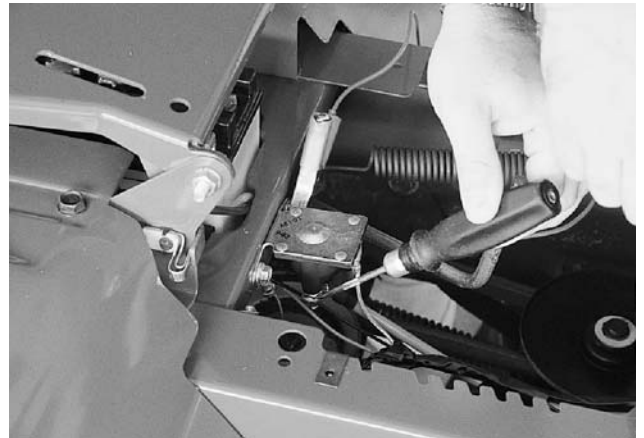

Figure 3-20.
8. To check for proper electrical ground, connect one side of your meter or test light to the positive terminal of the battery. Touch the other lead to the mounting bracket of the solenoid. If voltage is present, the solenoid is properly grounded. See Figure 3-20.